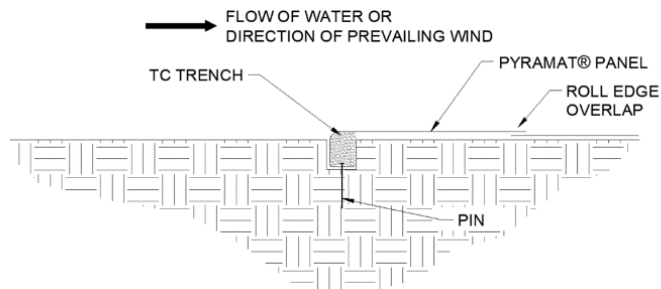

Figure 19: Terminal Channel (TC) trench complete
17. Fold the panel over the top of the compacted TC trench (Figure 19) ensuring a minimum 3 in (75 mm) overlap and place each panel end into the respective COS trenches.